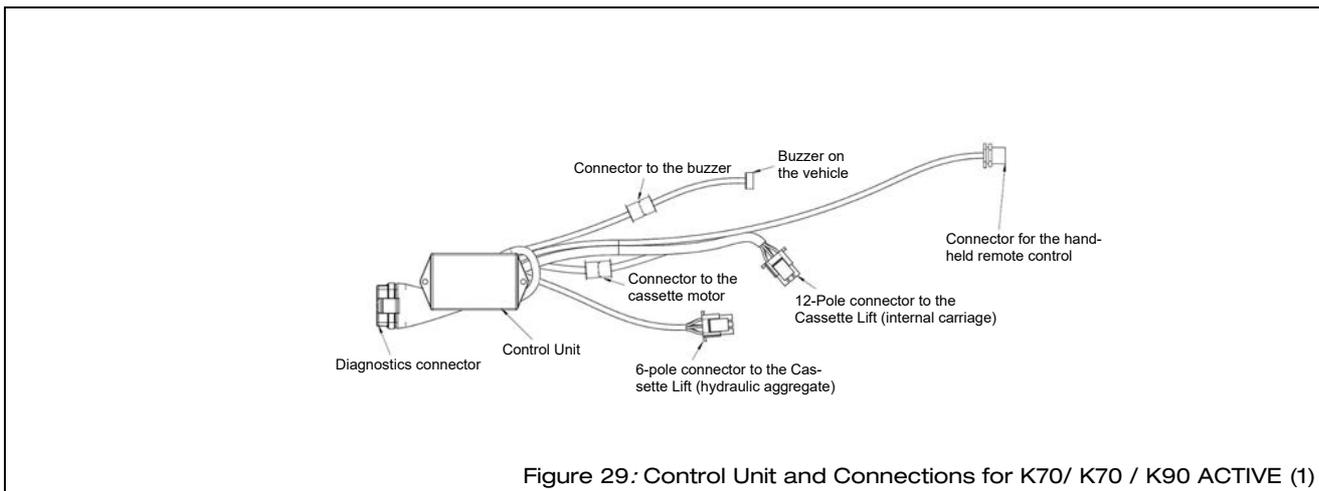
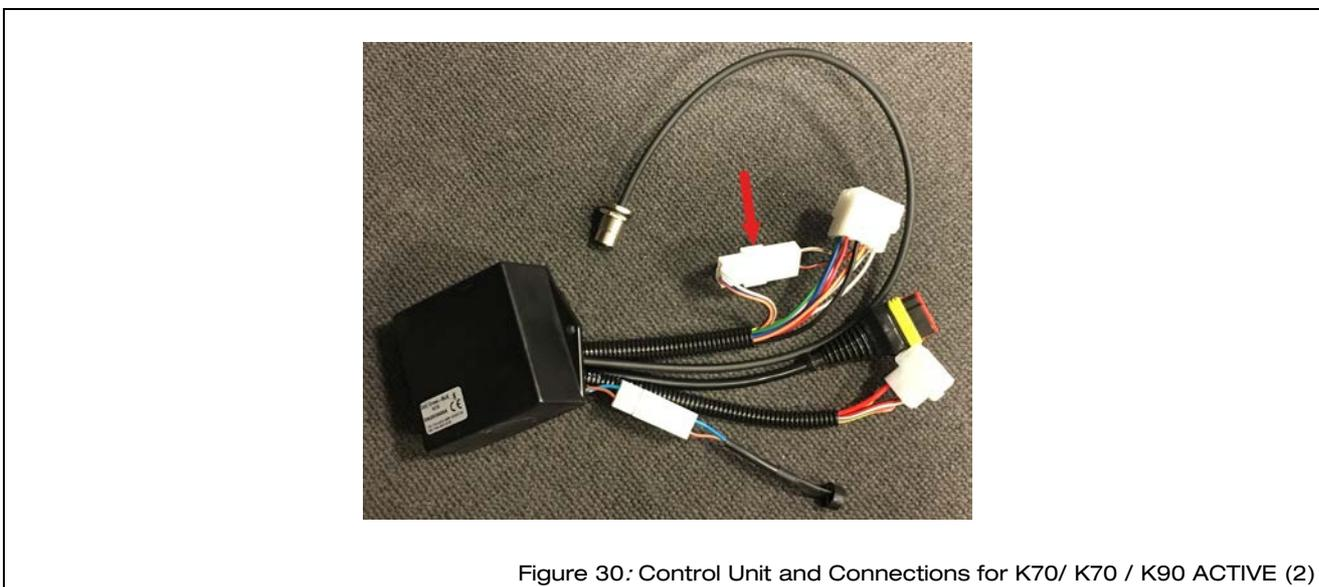

Figure 29: Control Unit and Connections for K70/ K70 / K90 ACTIVE (1)
Figure 30: Control Unit and Connections for K70/ K70 / K90 ACTIVE (2)
⇒ Disconnect the cassette motor plug from the control unit. The control unit is normally installed under the passenger seat. The cassette motor plug is a two-pin plug and branches off the cabling to the twelve-pole plug (see Figure 29 and red arrow in Figure 30).
- ⇒ Disconnect the cassette motor plug from the control unit. The control unit is normally installed under the passenger seat. The cassette motor plug is a two-pin plug and branches off the cabling from the twelve-pole plug (see Figure 29, page 47, and red arrow in Figure 30, page 47).